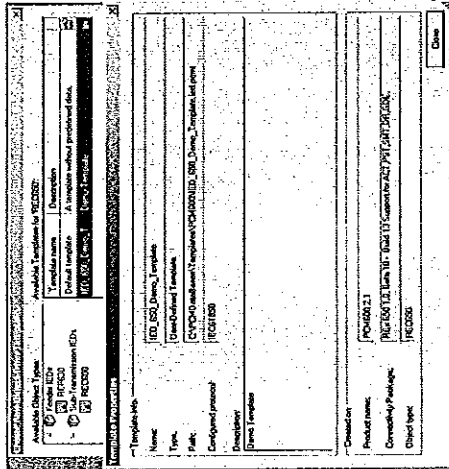

Figure 28: PC600: IED Template Properties
4. Click the icon in the right column of the list of available templates to open the *Template Properties*. Verify the template information, see Figure 28 and click *Create* to close the window.